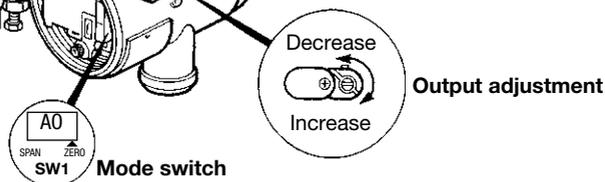

Fig. 15
- 7.2.4 Using a suitable milliammeter, check that the output of the DP transmitter is 4.00 mA across terminals CK+ and CK- as shown in Fig.14. (If a flow display is being used, it should read zero.) Set the mode switch (SW1) to the zero position and using the output adjuster on the M610 DP transmitter, adjust the zero output until a value of exactly 4.00 mA is achieved. see Fig. 15.